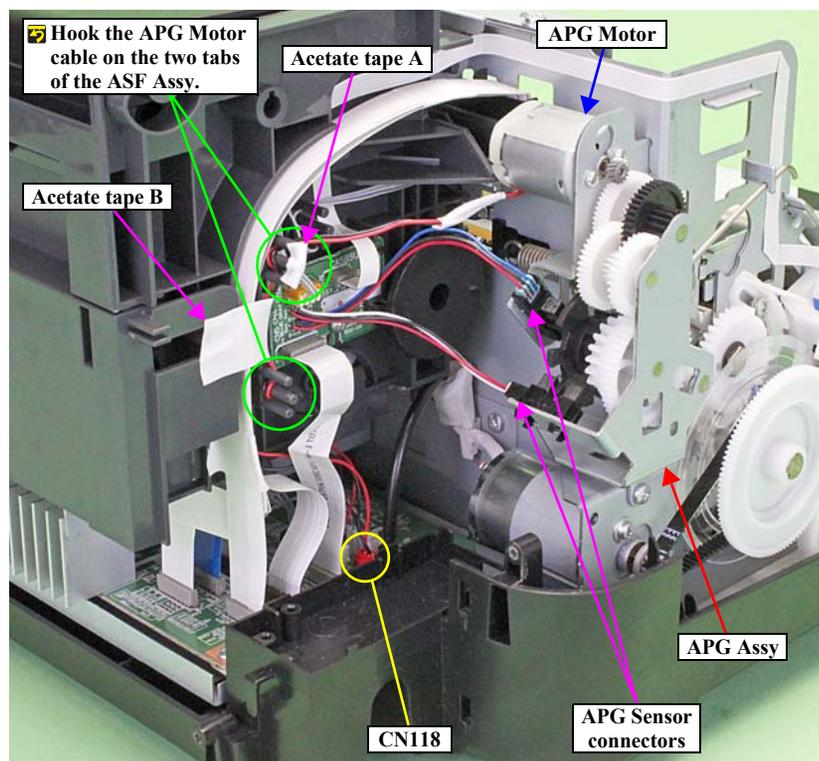

Figure 3-35. Disconnecting the Cables
- Referring to Figure 3-35, correctly route the APG connector cable.